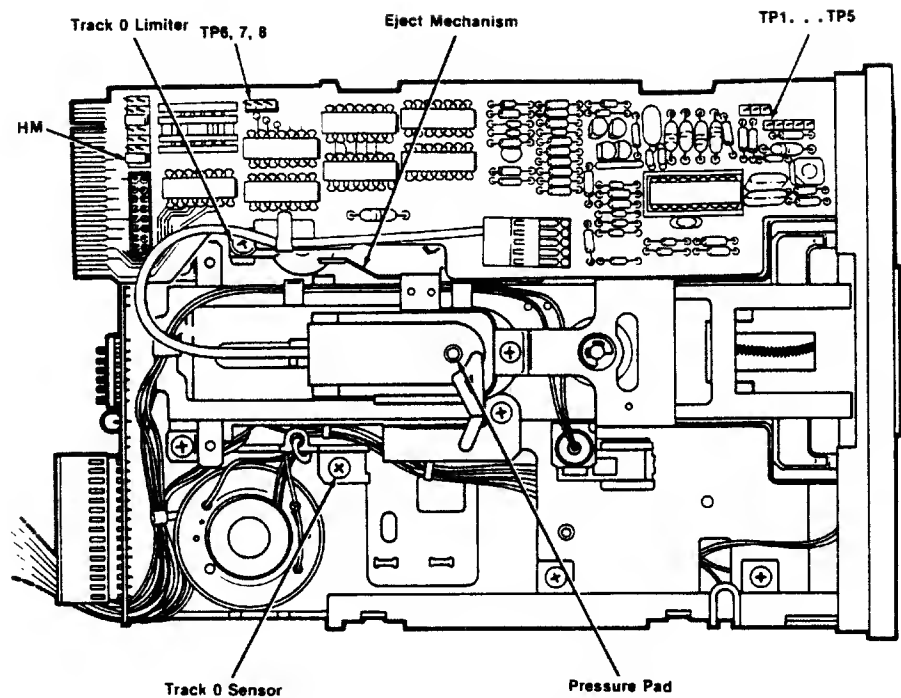

FIGURE 8-52. ALPS DRIVE TOP VIEW
- 8.3.4.2 Locate the track 0 limiter to the right of the head assembly, directly under the head cable clip (Figure 8-52).
- 8.3.4.5 If track 0 limiter is not within tolerance, loosen the Phillips screw on the track 0 limiter and adjust it to 0–0.25 mm clearance (Figure 8-52).
- 8.3.5.9 If the drive does NOT satisfy test conditions 8.3.5.7 and 8.3.5.8, loosen the 4/40 x 0.25 inch Phillips sensor mounting screw (Figure 8-52).